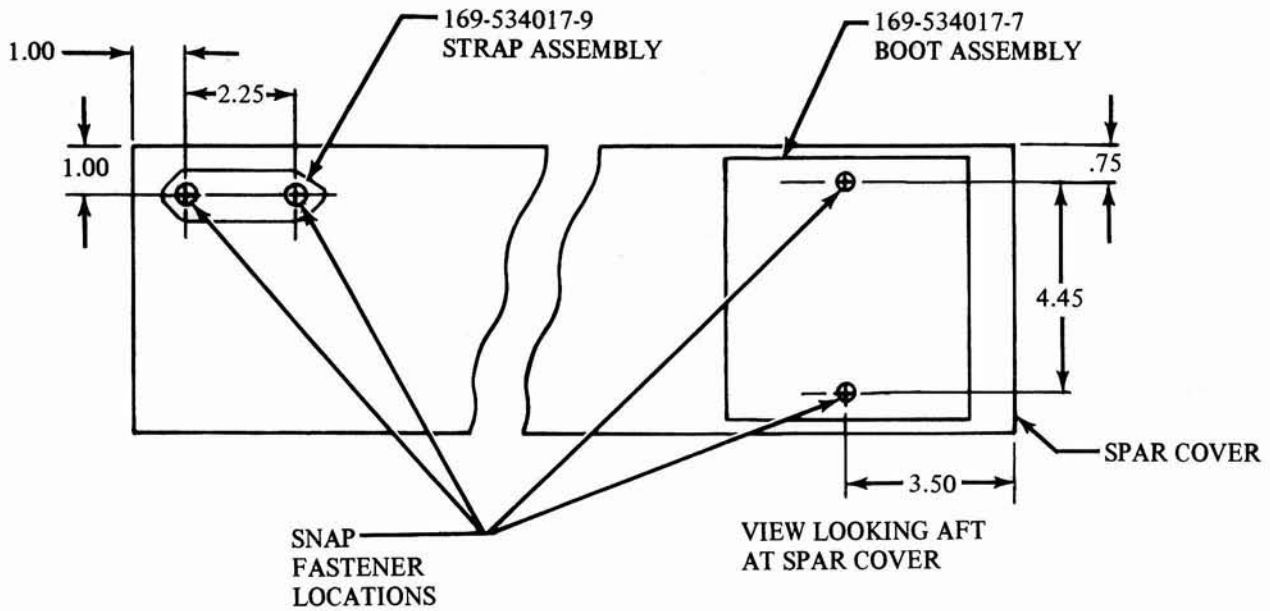

Figure 1. Tow Bar Provision
2. Drill four .1875 (3/16") holes through the spar cover at the locations shown in fig. 1.